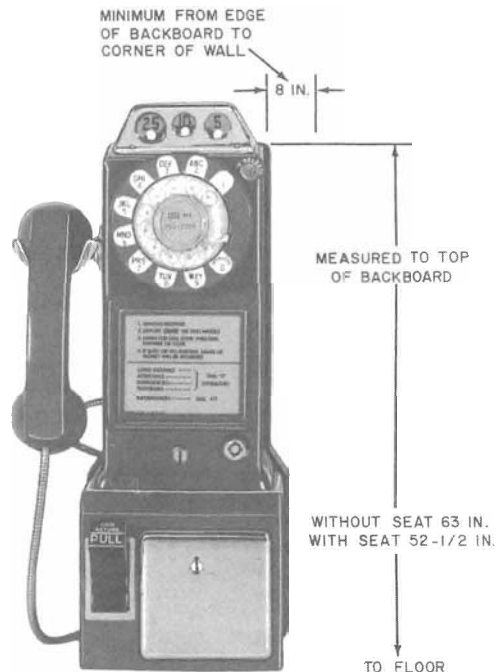

Fig. 13—Suggested Mounting Height and Clearance
3.17 To install on a wall without a shelf, use a 174A backboard. See Fig. 13 for requirements.
3.20 Fig. 13 shows the suggested mounting height and clearance for all coin stations. Stations may be mounted at other heights to meet local conditions providing this does not create service or maintenance problems.